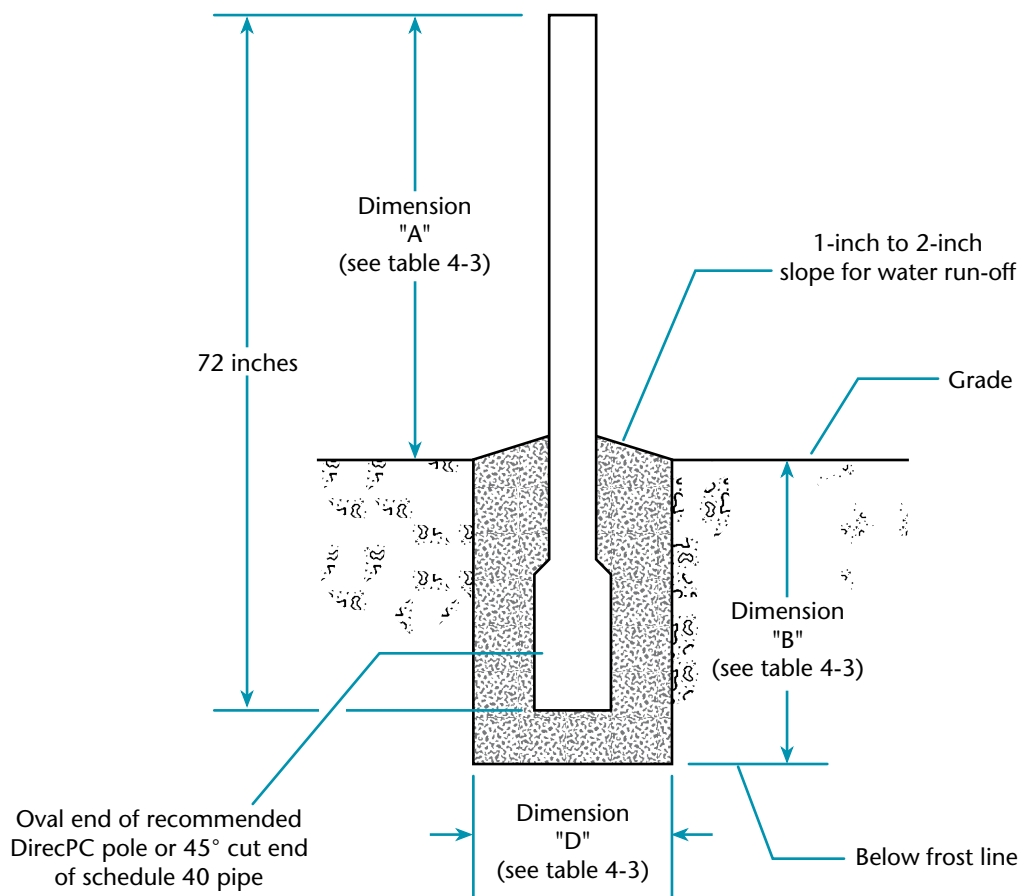
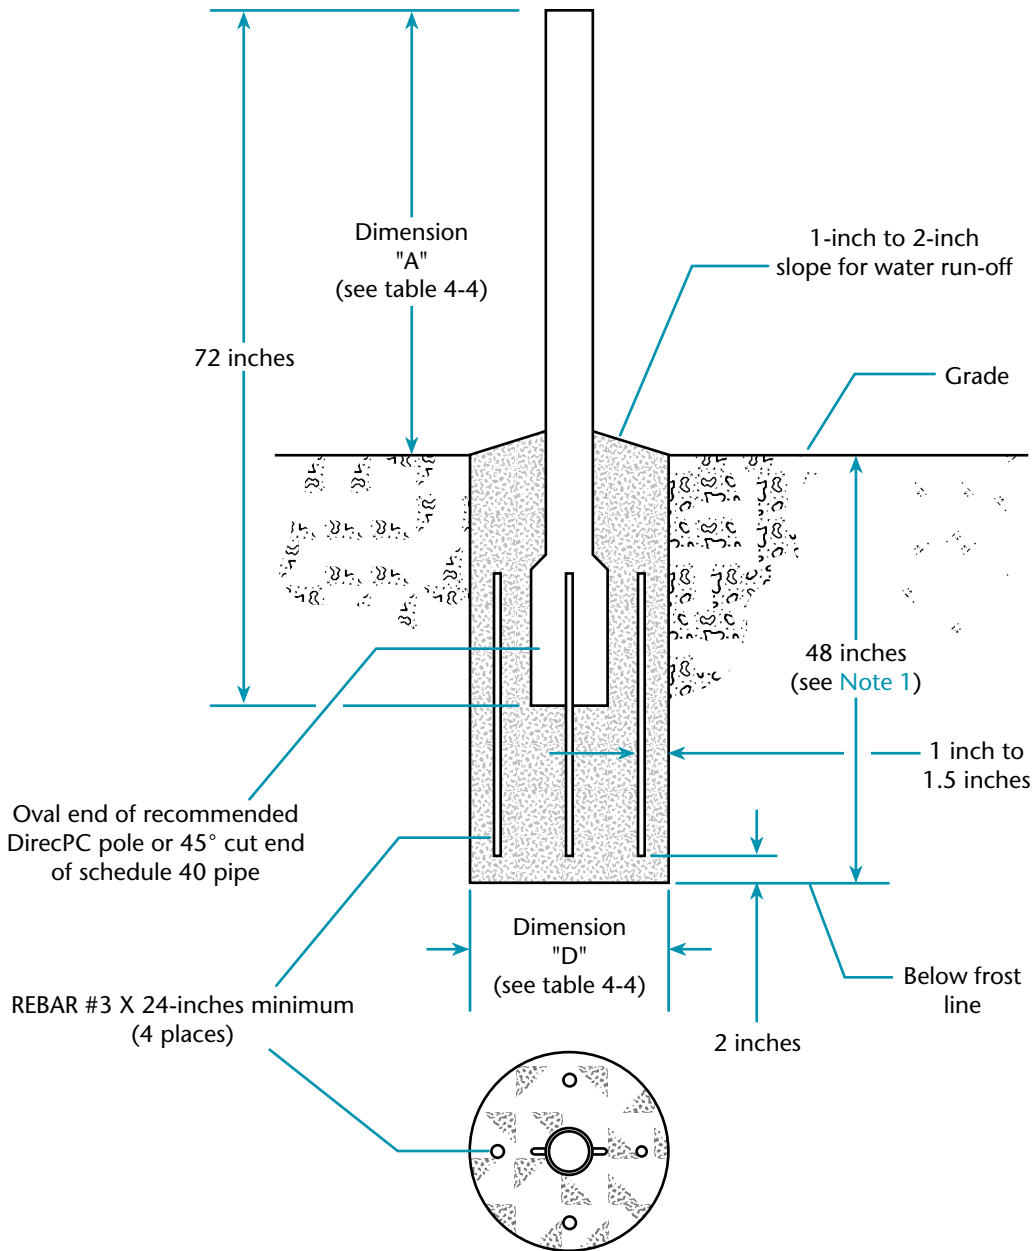

Figure 4-23. Standard DirecPC pole mount pier foundation diagram
Figure 4-24. Deep frost line DirecPC pole mount foundation diagram
Note: If you live in an area where the frost line is never deeper than 36 inches below grade, refer to figure 4-23 and table 4-3 for specifications as you perform the following steps to install the pole. Otherwise, refer to figure 4-24 and table 4-4 for specifications that describe installing the pole in soil where the frost line extends 36 inches or deeper below grade
Note 2: The foundation design shown in figure 4-23 is intended as a guide only, it does not represent a specific site plan. Because soil conditions vary and may not meet design criteria listed in Note 1, you should consult a local professional engineer to determine your soil conditions and appropriate foundation.
Note 3: The foundation design shown in figure 4-24 is intended as a guide only, it does not represent a specific site plan. Because soil conditions vary and may not meet design criteria listed in Note 2, you should consult a local professional engineer to determine your soil conditions and appropriate foundation.
5. Fill the hole with prepared quick-drying cement. Shape the top of the concrete with a slope to improve drainage as shown in figures 4-23 and 4-24.